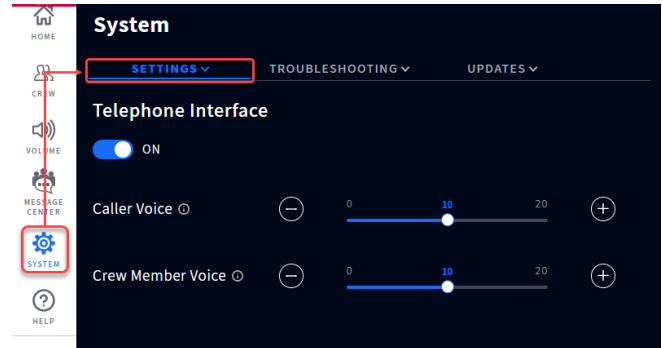

Fig. 12.4
2. Log in to the NEXEO base station and go to **SYSTEM>SETTINGS**. Select Telephone Interface from the drop-down list. See Fig. 12.4. Toggle the OFF switch ON. The recommended default values are set to 10. If necessary, the volume levels can be adjusted using the sliders.